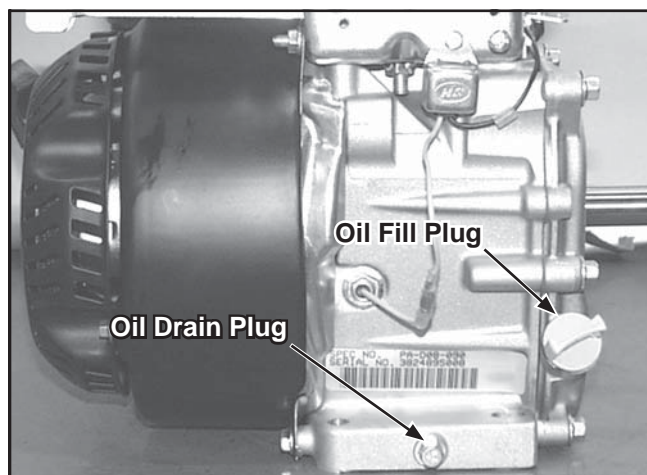

Figure 9-3. Oil Drain Plug.
1. Remove one of the oil drain plugs and one of the oil fill plugs. See Figure 9-3.